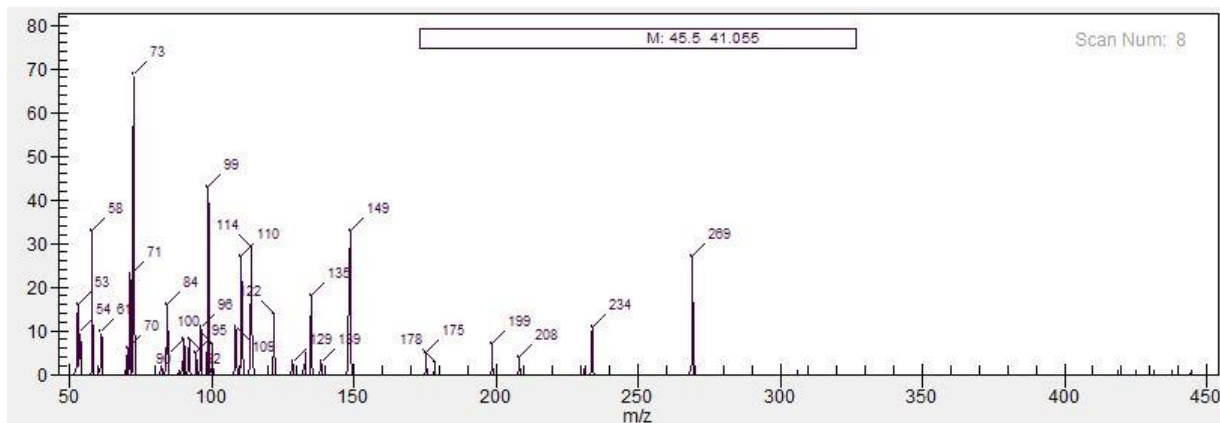

Figure 2.16 – Sample blank APCI mass spectrum
8. Correct positioning will typically produce spectra featuring a low to moderate intensity peak at  $m/z$  73 originating from a protonated water trimer (Figure 2.16). However, additional peaks may be present and intensities may vary greatly depending upon the local humidity and presence of any additional substances in the ambient air.